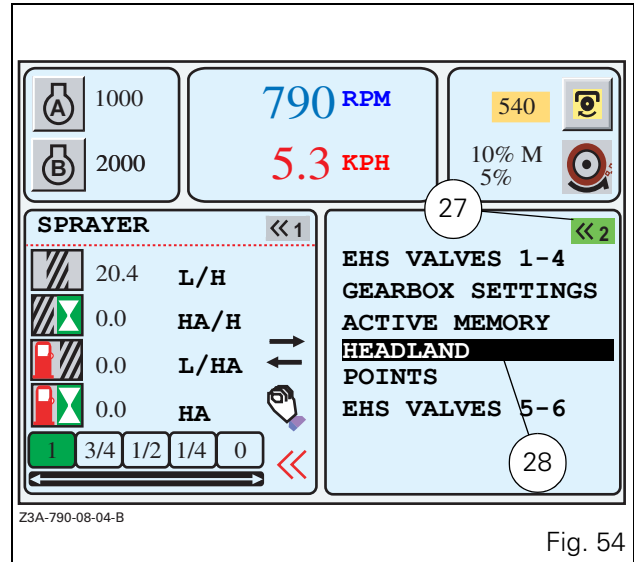

Fig. 54
HEADLAND menu displayed in the right-hand window for example (Fig. 54):
- To display this menu, press key <<2 twice. The first press selects the window and the second press displays the list if no application was activated previously. The active application is indicated by the green icon at the top right-hand of the window (27 Fig. 54), and on b/w screens the active window is indicated by the same icon in reverse video.
- To select the HEADLAND menu, select the application using the encoder. The selected application is displayed in a black frame (28 Fig. 54).